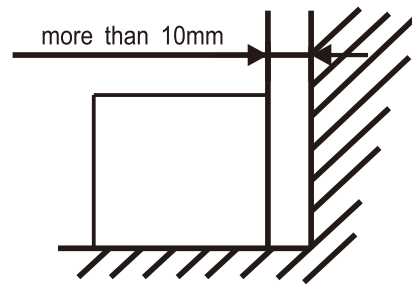

Figure 2
- The appliance requires a minimum ventilation space at the sides and top of 10mm. At the rear, 30-50mm is preferred, but 10mm is the minimum. See figure 2. The front grille must be completely unobstructed.